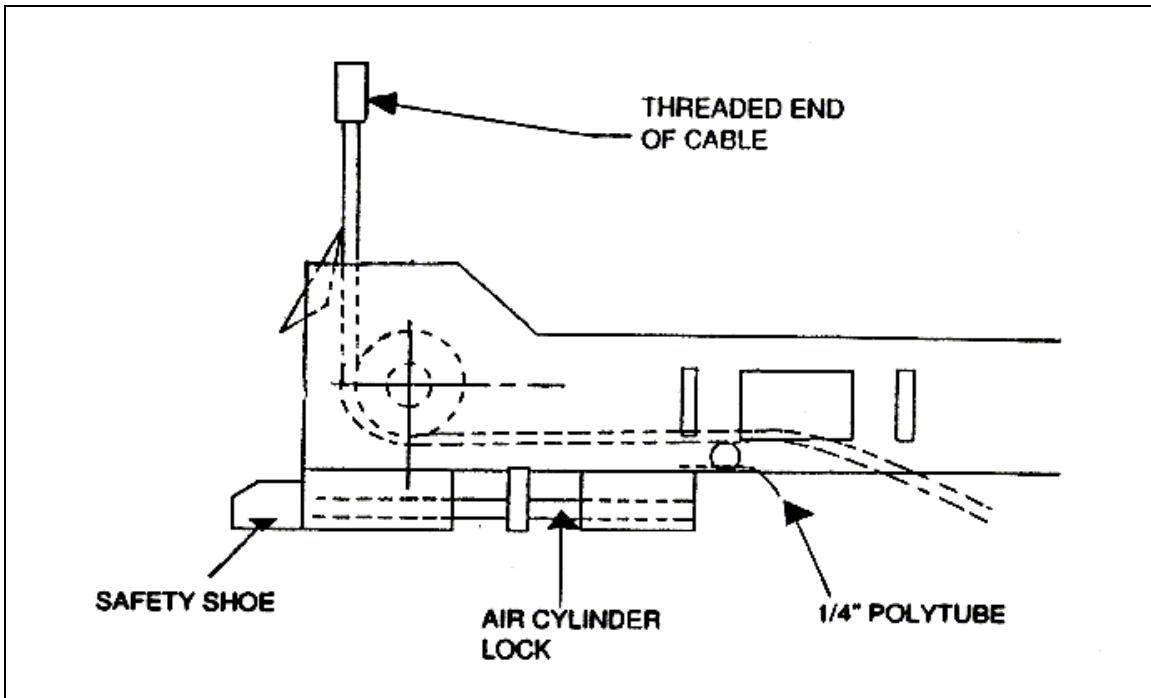
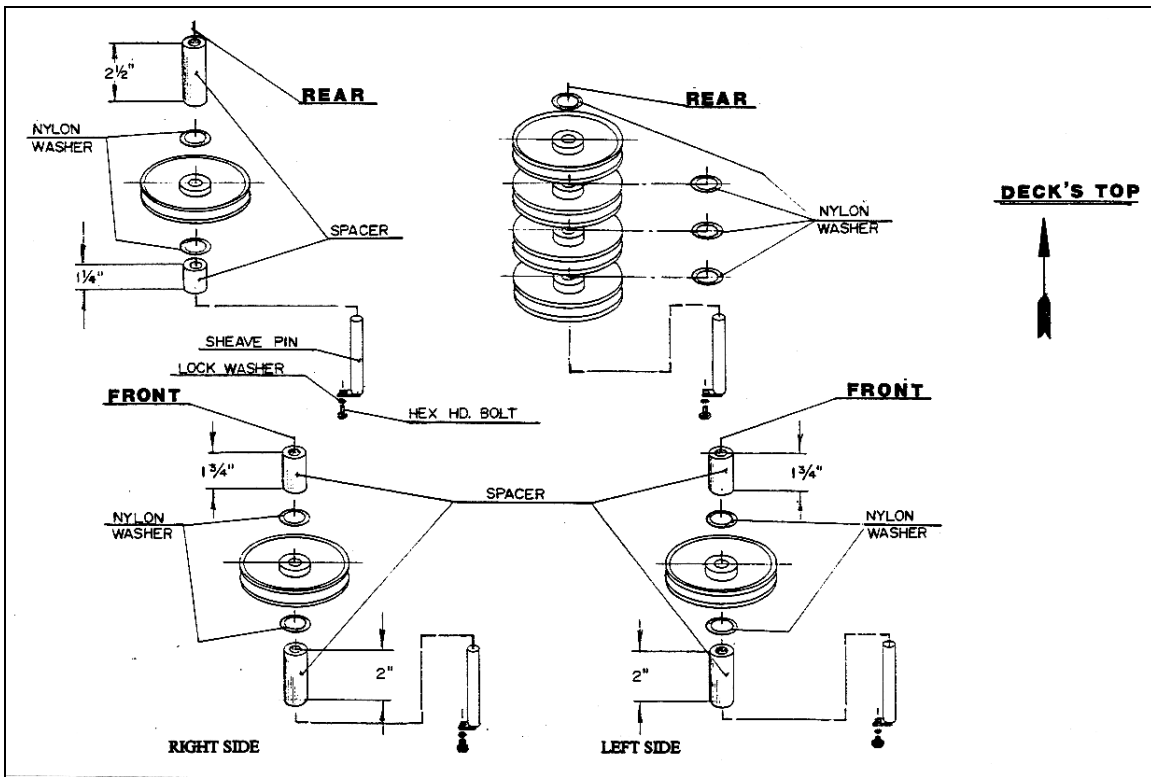

Figure 4. Typical cable routing in crossmember
Figure 5. Sheaves installation
- Before beginning cable routing, refer to Figure 4, Cable and Routing Diagram.
- Begin routing cable # 4 (part # 2-1288) starting at the very top of the right side of the front crossmember assembly using the non threaded end of the cable as described in Figure 4. Place the non threaded end of the cable at the opening of the front-right crossmember.
- Route cable # 1 (part # 2-1287) starting at the very top of the left side of the front crossmember assembly using the non threaded end of the cable as described in Figure 4. Place the non threaded end of the cable at the opening of the front-left crossmember.
Refer to Figure 4, Figure 5, and Section 9.5.
- Refer to Figure 4, Cable and Routing Diagram.
- Check for correct arrangement of spacers on sheave stacks, Figure 5.
- Install the sheave into the front of the right deck as shown in Figure 5 and Section 9.5.
- Begin routing cable #3 (Part # 2-0541) from the right rear crossmember assembly using the non threaded end of the cable as described in Figure 4, and out through the crossmember assembly to the opening under the rear of the right deck.
- Install the sheave into the rear of the right deck as shown in Section 9.5, and Figure 5.
- Route cable #2 (Part # 2-0540) from the left side of the rear crossmember assembly using the non threaded end of the cable as described in Figure 4, and out through the crossmember assembly to the opening under the rear of the left deck.
- Install the sheave into the front of the left deck as shown in Section 9.5, and Figure 5.
- Install the sheave stack assembly at the rear of the left deck as shown in Section 9.5, and Figure 5. Sheaves installation.